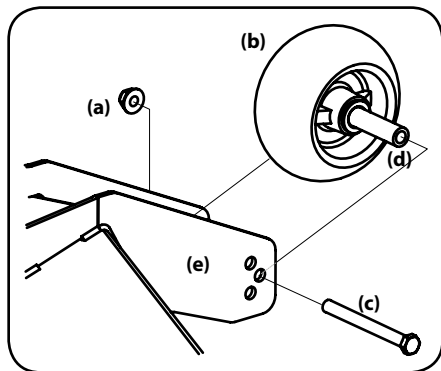

Figure 4-8
2. Remove the lock nut (a) securing one of the front gauge wheel (b) to the deck. Remove the front gauge wheel (b), hex screw (c) and spacer (d). See Figure 4-8.